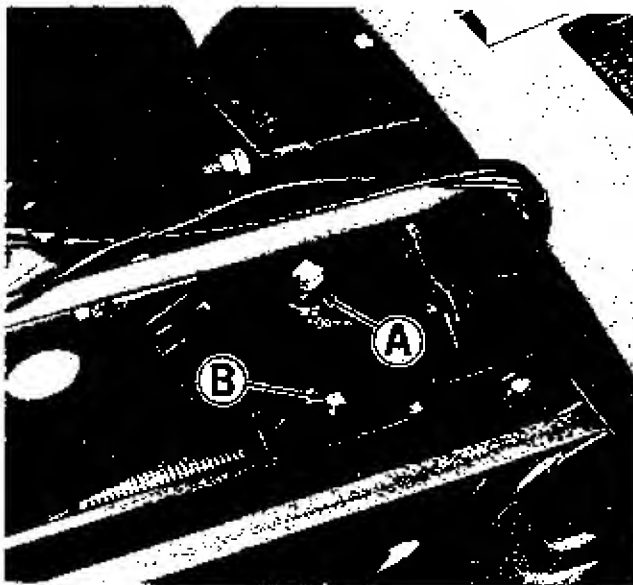

Figure 31. Bevel gear housing located under seat deck.
CHECK BEVEL GEAR BOX OIL LEVEL: See figure 31. The check and fill plug for the bevel gear box is located at (A). Remove it to check the oil level. The bevel gear box is properly filled when oil is visible at the bottom of the elbow. If filled to the top of the elbow, oil may be forced out the vent plug located on top of the bevel gear housing. If oil is required, add SAE 90 weight transmission oil. Fill only until oil can be seen in the bottom of the pipe elbow. If it should be necessary to drain the bevel gear housing, the drain plug is located at (B). Always tighten it securely when replacing to prevent oil leakage.